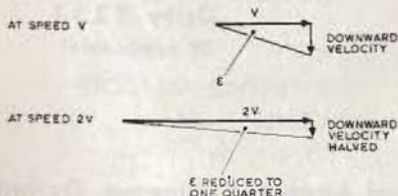

Fig. 5
This is shown in Fig. 5, which shows the triangle of velocities for the air leaving the wing of the same glider at a speed (V) and at twice that speed (2V). It can be seen that the downwash angle is only a quarter as much when speed is doubled.